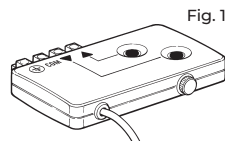

Fig. 1
- **Tutte le operazioni di programmazione e regolazione devono essere effettuate con il programmatore TTU** (fig. 1).
*All the programming and adjustment operations must be carried out with the Nice TTU programmer (fig. 1). Alternatively you can also use a two-button push button panel, as long as this allows you to press the two buttons at the same time and allows the buttons to return to their previous position, when they are released.*